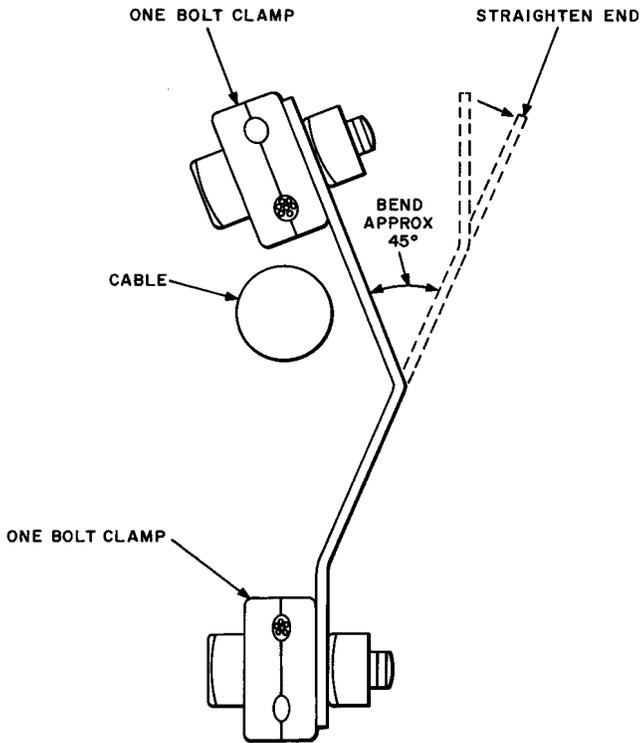

Fig. 8—S Reinforcing Strap Placed on Inverted Strand 1/2 Span Point
4.10 For inverted strand at the 1/2-span point, form and place an S Reinforcing Strap as shown in Fig. 8.